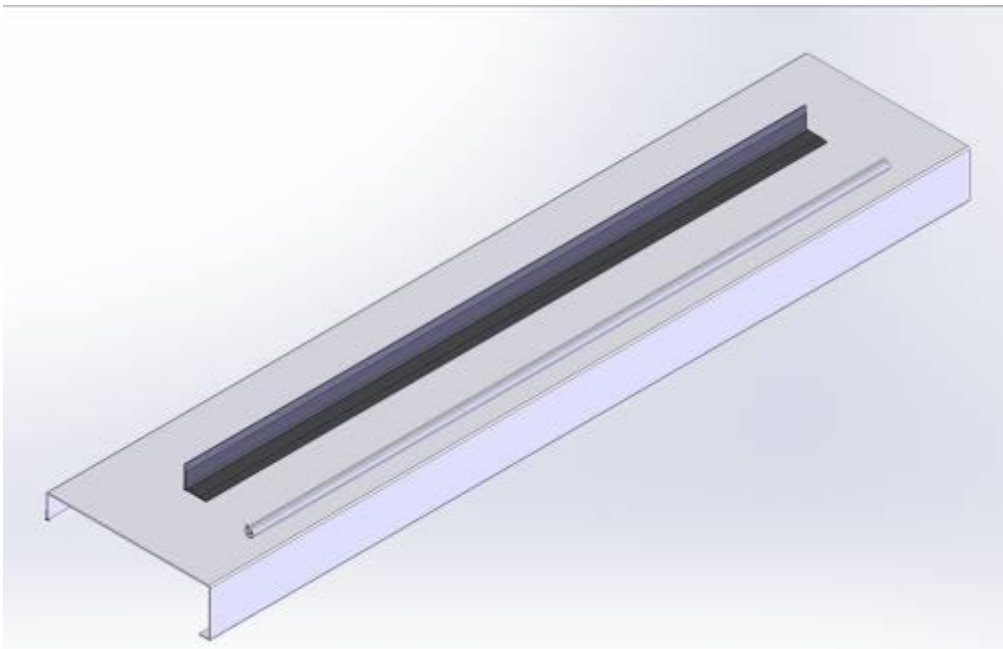

Fig. 2
4. Bolt Rubber wind deflector to the cap just ahead of were the tarp will lay on the cap. This will help keep wind from getting under tarp – see fig. 2.
3. The next mark will be the vertical center mark. It will need to be offset from the center of the trailer by 1.25" towards the lock down side. Refer to figure 2 for clarification.